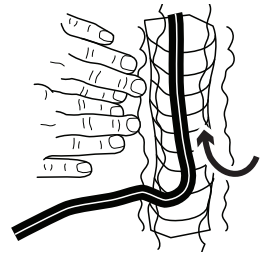

Fig. 12
1. Once system is operating properly, bury and backfill all wire and connectors for the system (shovel, or sod cutter recommended). (Fig. 12)